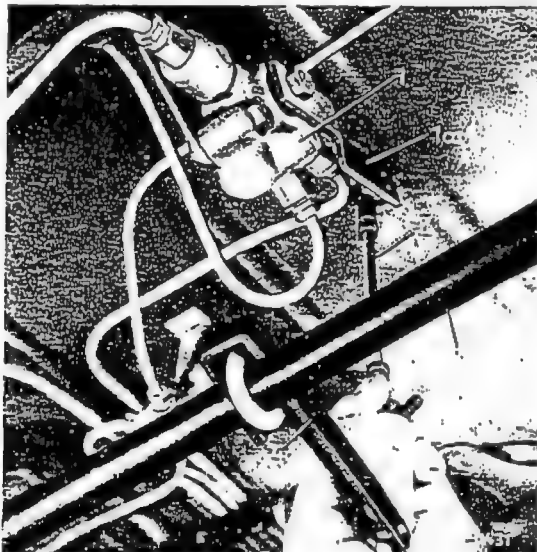

Fig. 32-12/6
5. Fill the bellows to approx. 3 atm by lifting the lever on the leveling valve, taking care that the bellows are properly centered on the spring piston (Fig. 32-12/6). When the assembly is properly mounted, the bellows must rest evenly on the whole circumference of the spring piston.